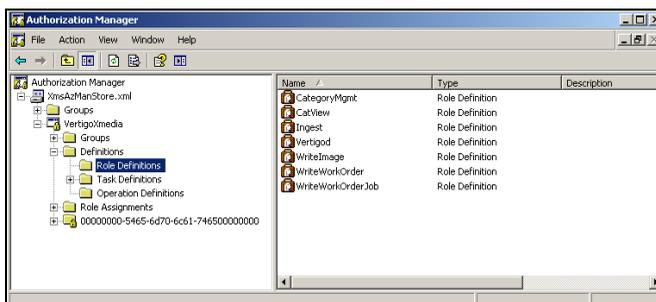

Figure 19-23. The role definitions that belong to AzMan's VertigoXmedia application
7. Select the **ROLE DEFINITION** node. The right-side panel should now be populated with Vertigo Xmedia role definitions (figure 19-23).